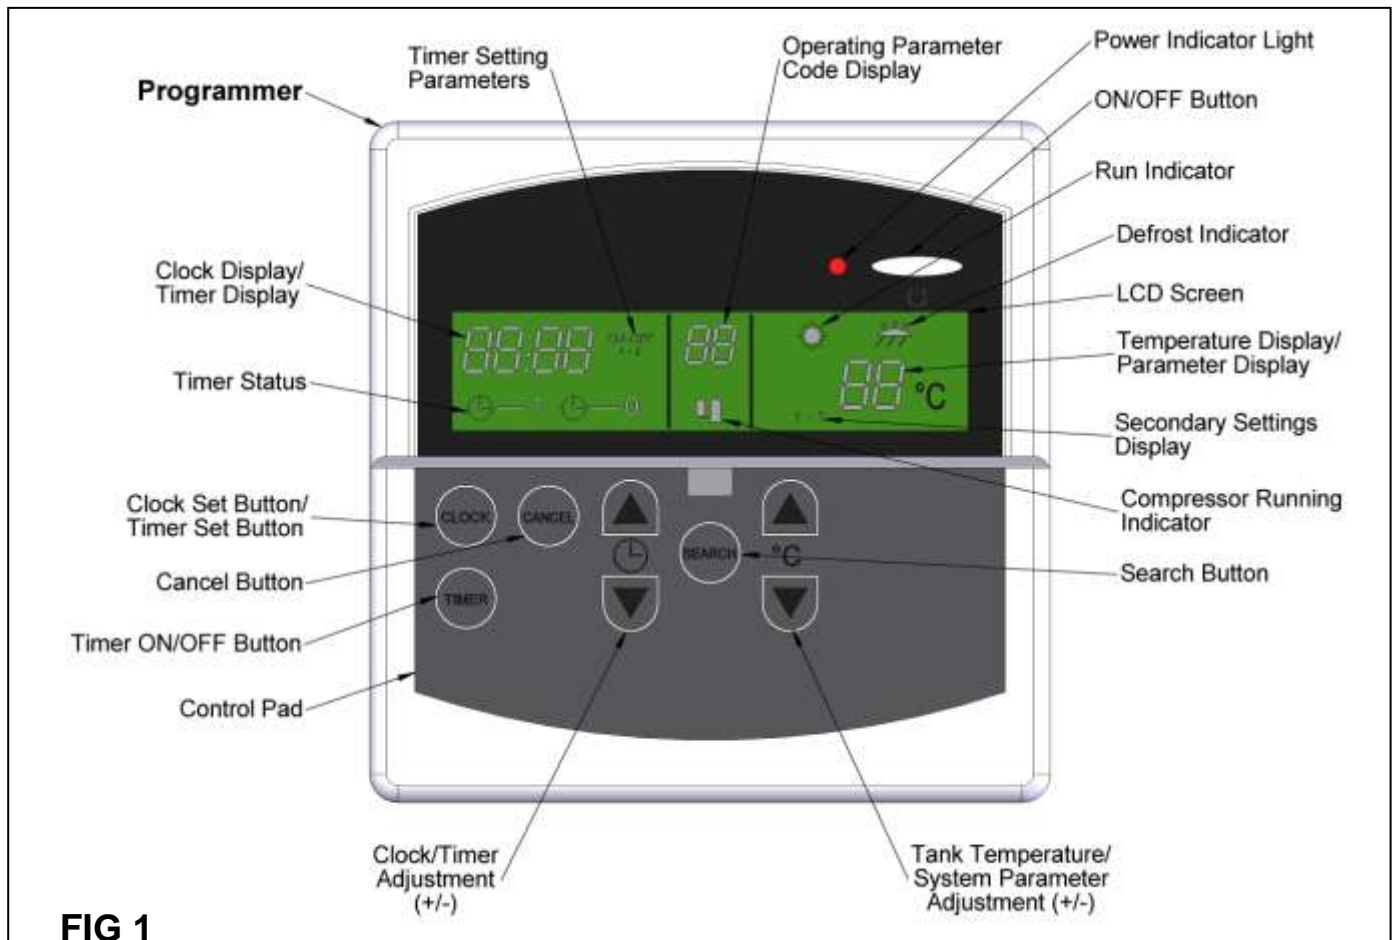

FIG 1
The diagram below (**fig. 1**) shows the programmer layout with the controls uncovered (lift off the protective flap).
In certain circumstances, the unit may enter a temporary lockout mode in order to maintain efficient operation. During such times, a code will appear on the programmer display (**fig. 1**). This is entirely normal and the unit will automatically resume functioning once it has completed its reset cycle.
If the temperature is cold enough for ice to develop on the coil, this may become clogged and cause the appliance to cease operation. Should this occur, the unit will automatically enter defrost mode. This will divert heat from the heating circuit back to the coil until the ice has melted. The DEFROST symbol will appear above the temperature display (see **fig. 1**) during such times.
1. The unit may be running through a process to clear an operating parameter condition. In most cases, this will be cleared automatically, though if it persists, check the programmer display (**fig. 1**) for an operating parameter number. Refer to the guide on **page 21** for full descriptions and remedies.
4. Check the unit has not entered defrost mode (the DEFROST symbol will appear above the temperature display – see **fig. 1**). Should this occur, the heat output from the appliance will be diverted to the coil, until any ice build-up has been removed.